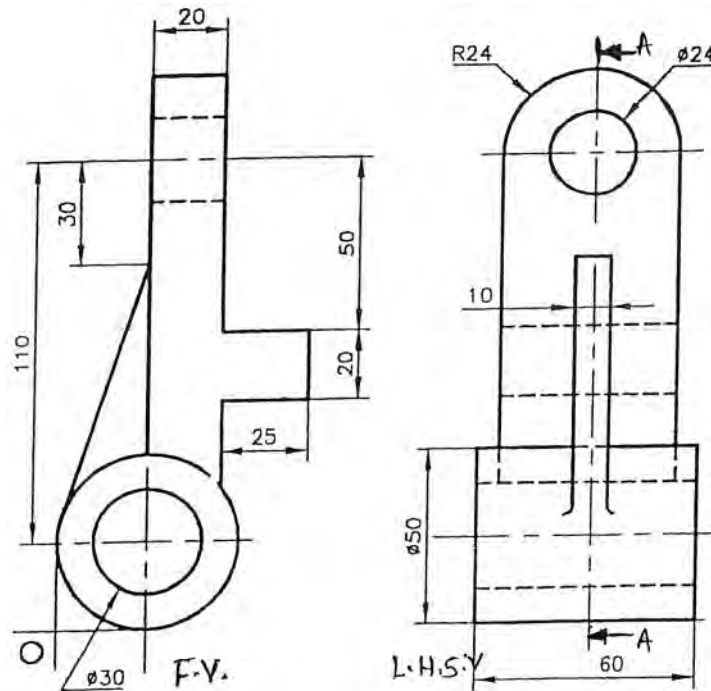

Fig. 8
10. The Figure 8 shows front view and left side view of a machine part. Draw